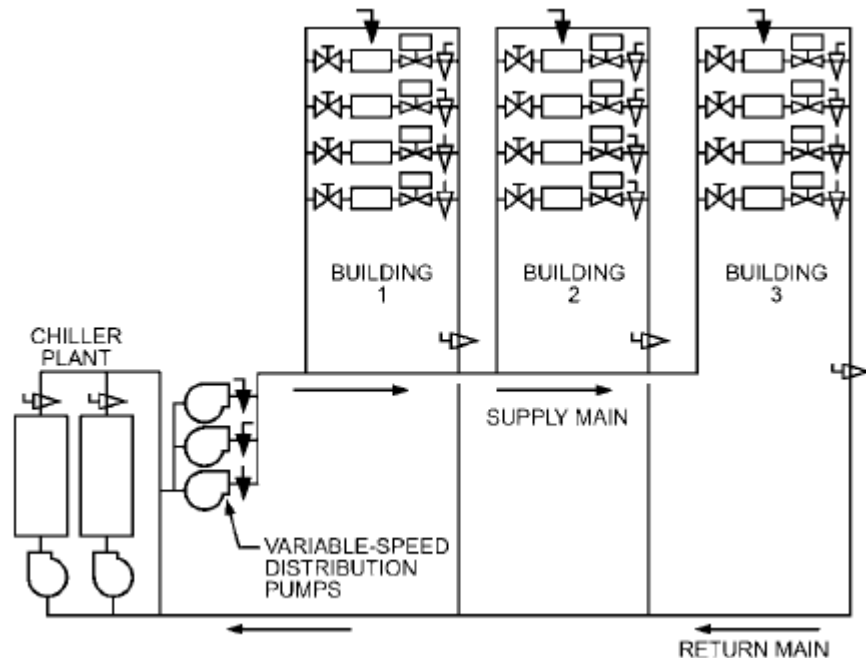

Figure 36 Variable-Speed Central Pumping
- In a variable-speed pumping arrangement, **constant flow pump(s) recirculate the chiller or boiler source in a primary source loop**, and a variable-speed distribution pump located at the source plant draws flow from the source loop and distributes to the load terminals as shown in Figure 36.